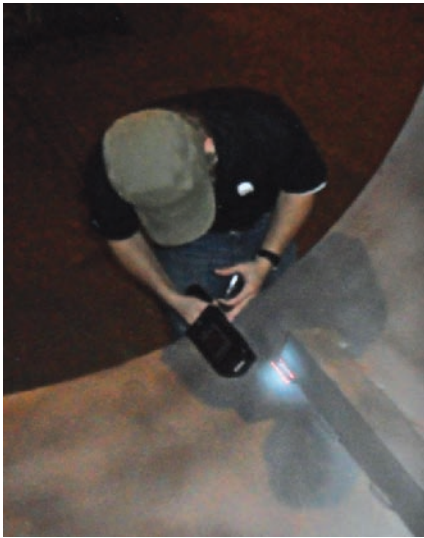

Fig. 6 — The same skewed fillet shown in Fig. 5 being scanned with the hand-held laser inspection tool.
2. Scan the fillet weld in question (included angle of the skewed fillet is irrelevant to the scan) — Fig. 6.